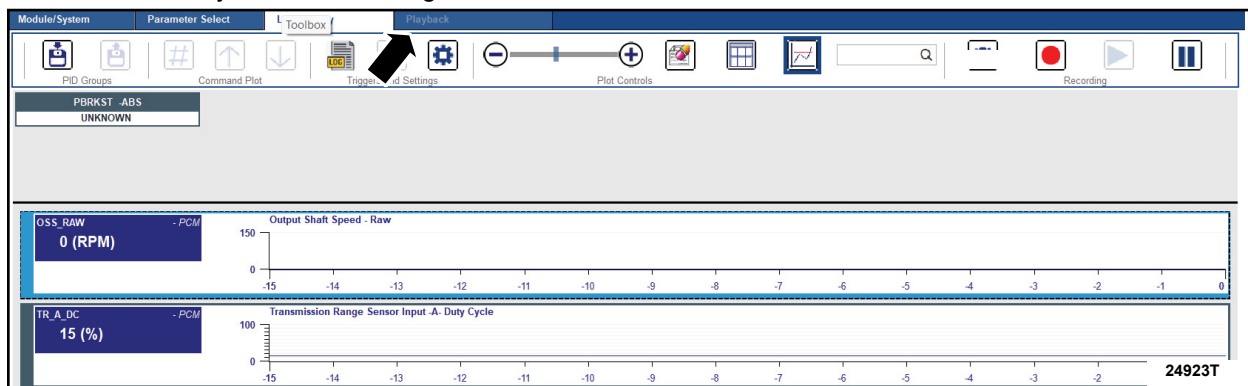

FIGURE 7
19. Select the Playback tab. See Figure 7.